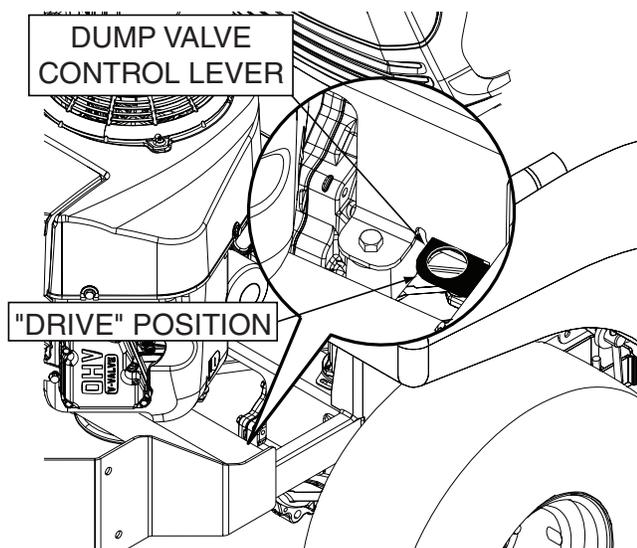

Figure 4-2. Dump Valve Control
10. **Dump Valve Control Levers (Figure 4-2).** Located on the left and right side at the back of the unit, used to "free-wheel" the mower. Pushing the levers forward (towards the front of the mower) allows the unit to move under hydraulic power. Pulling the levers backward and locking in the notch (towards the rear of the mower and inward) allows the mower to be moved by hand (free-wheeling).